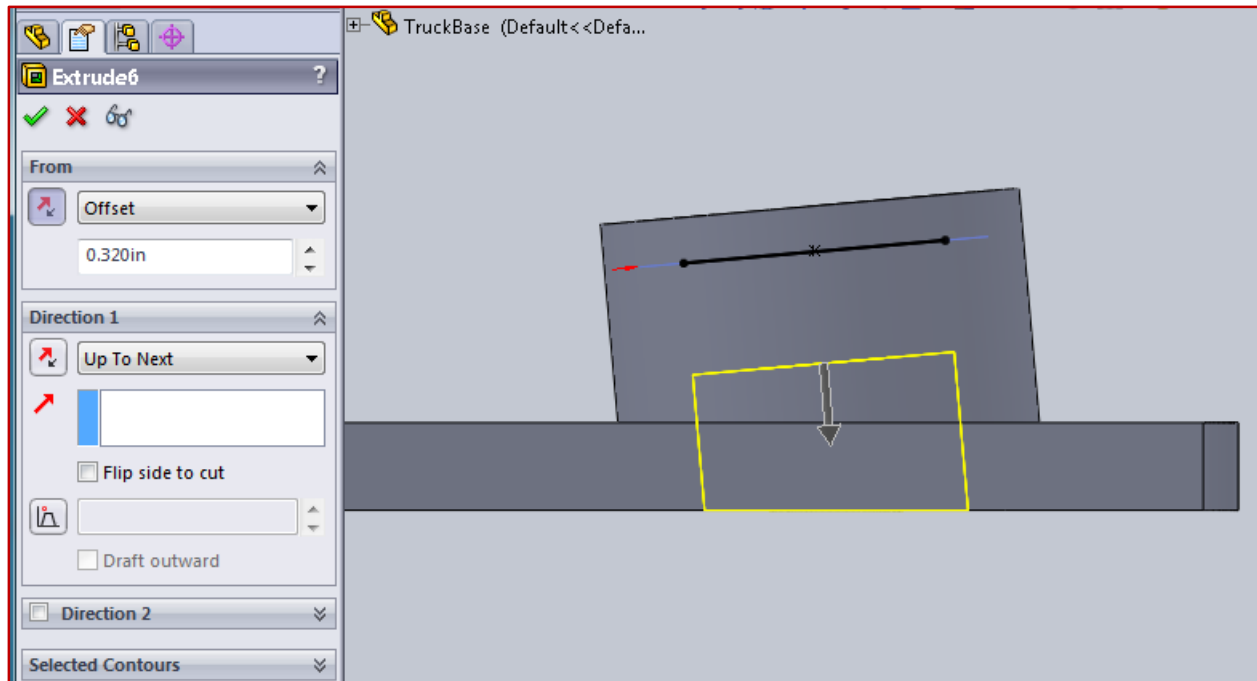

Figure 8.9 – Bottom Pocket
Step 67: Click on the **Extruded Cut** icon in the **Features** toolbar and select the options in the dialog box on Figure 8.9.
- ✓ In Figure 8.9, notice that the pocket starts at an offset of 0.20 inch from the sketch surface and ends with the **Up To Next** end condition in Direction 1.